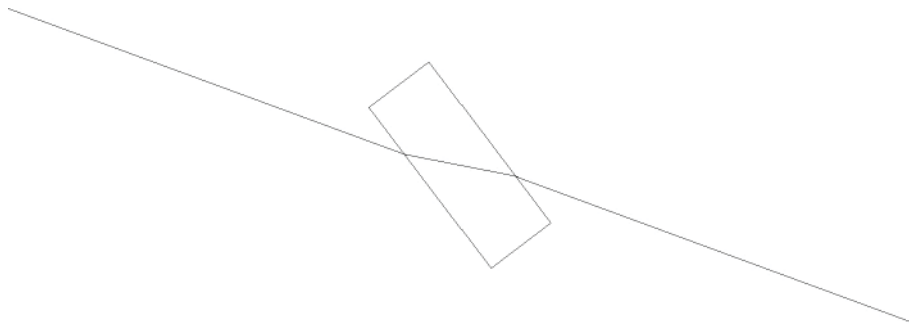

Fig. 14 Beam path inside the transducer crystal
11. Check the beam path inside the crystal with an IR-viewer and correct the crystal horizontal Y position [11 in Fig. 13] to get the beam to the centre (see Fig. 14).